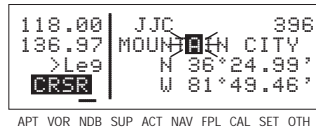

Figure 3-102
1. Select the desired waypoint page (APT, VOR, NDB, or SUP) on the screen (figure 3-102) using one of the three procedures explained in section 3.9.